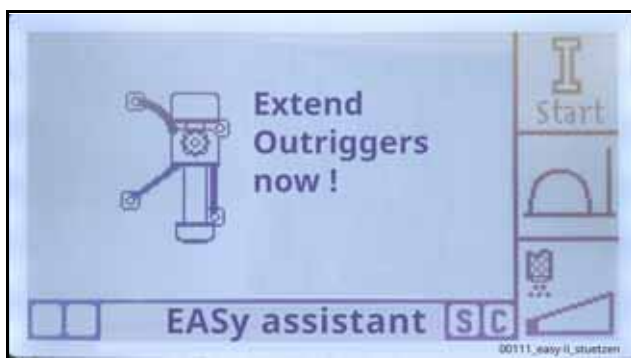

Fig. 449 Outrigger for EASy "left".
► In "LOCAL" operating mode, extend the horizontal outriggers according to the configuration shown on the display (Fig. 449)¹.